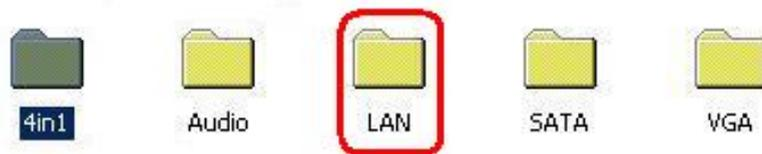

Figure 7-19: Access the LAN Driver Folder
Step 2: Open the “**IOWA-MARK**” folder. Open the “**LAN**” subfolder. (See **Figure 7-19**)